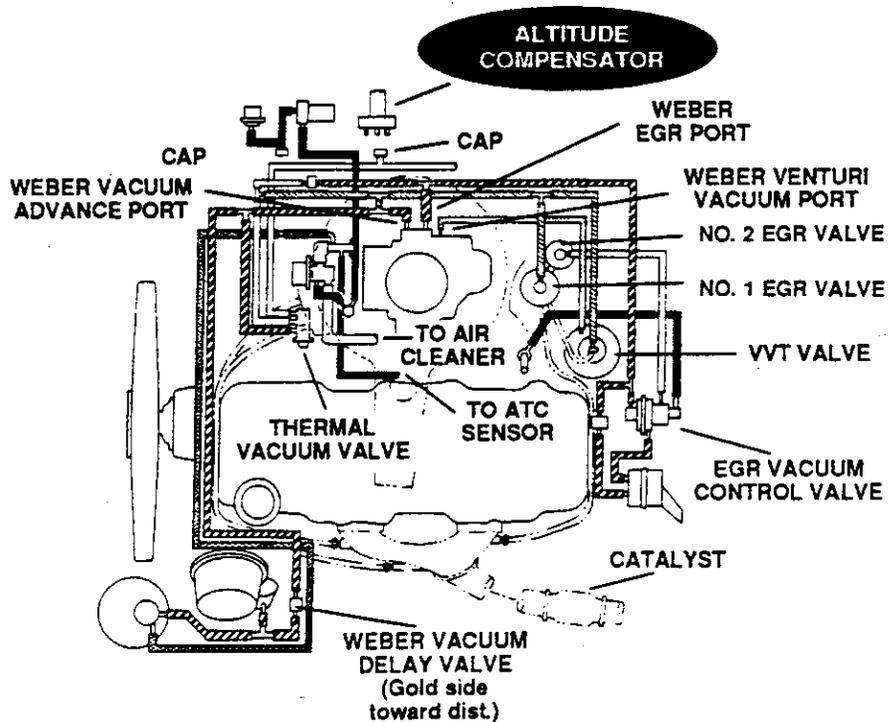

FIG. 6
23. **1981 MODEL 510 ONLY:** Using the tees supplied in the kit tee together the distributor vacuum advance hose and the No. 1 EGR valve hose as shown in FIG. 6. Connect the remaining end of the distributor vacuum advance hose to the vacuum advance port on the Weber carburetor. (figs. 4 & 6)